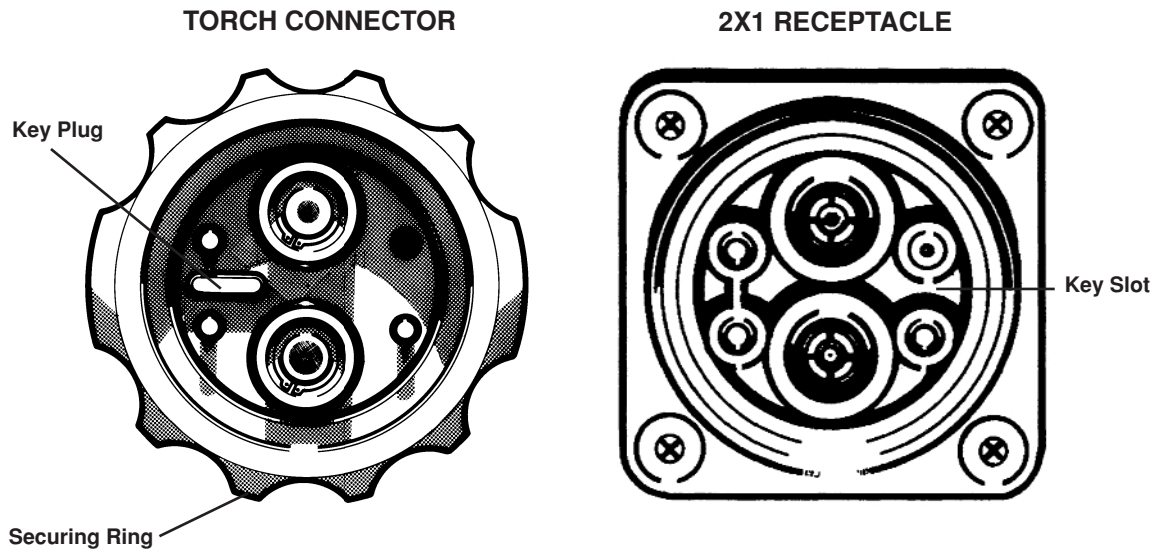

Figure 3-7 Quick Disconnect Alignment
1. Align the **TORCH CONNECTOR Key Plug** with the **2X1 RECEPTACLE Key Slot** (on the plasma gas console) and push in until the pins seat. (Figure 3-7)